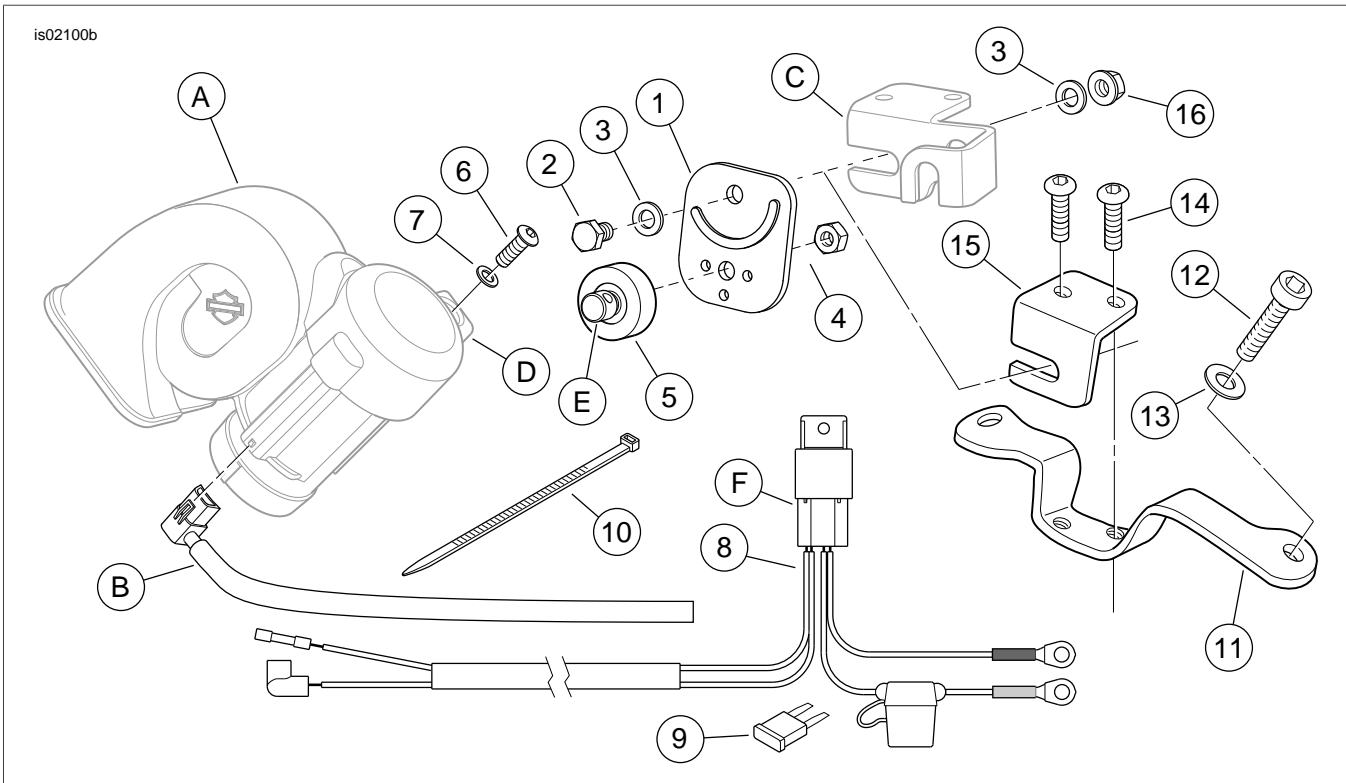

Figure 5. Service Parts: Horn Installation Kit
See Figure 5 and Table 1.
7. See Figure 5. Obtain the horn mounting bracket (1), chrome hex head screw (2) and one large flat washer (3) from the kit. Assemble the bracket to the slot in the horn bracket (Item C or 15), with the bent tab toward the vehicle, using the flanged locknut (16) and the second chrome flat washer (3) from the kit. Do not fully tighten at this time.
8. Obtain the **new** isolator (5) and hex locknut (4) from the kit. Insert the **threaded** stud on the isolator, from the outside, into the large hole in the horn mounting bracket. Fit the three pins on the isolator into the small holes in the bracket, and fasten the isolator to the bracket with the washer and nut. Tighten to 80-100 **in-lbs** (9.0-11.3 Nm).
16. Tuck the fuse holder (5) and horn relay (6) into the available space alongside the battery.
18. See Figure 5. Obtain the air intake tube (B, comes with Premium Air Horn). Push the tube connector into the opening near the bottom of the horn until the tab retainer clicks into place.